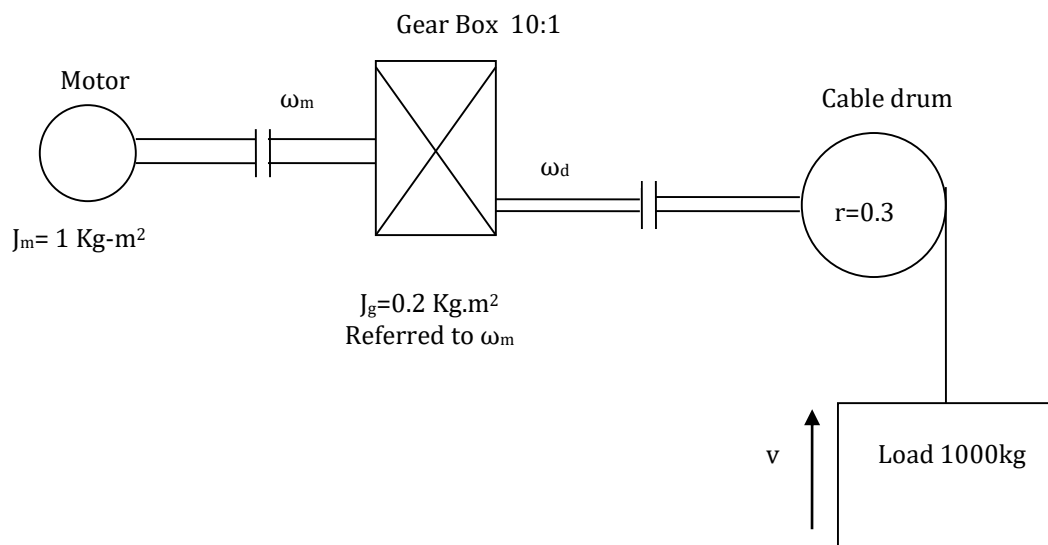

Figure 1B.
- 1B.** In the Mechanism shown below figure 1B. The motor drives the winch drum through 1:10 reduction Gears. Assuming that the shafts and cable are non-elastic, calculate the equivalent inertia of the motor and mechanism referred to the motor shaft. Inertia of cable drum is $J_a = 3 \text{ kg-m}^2$.